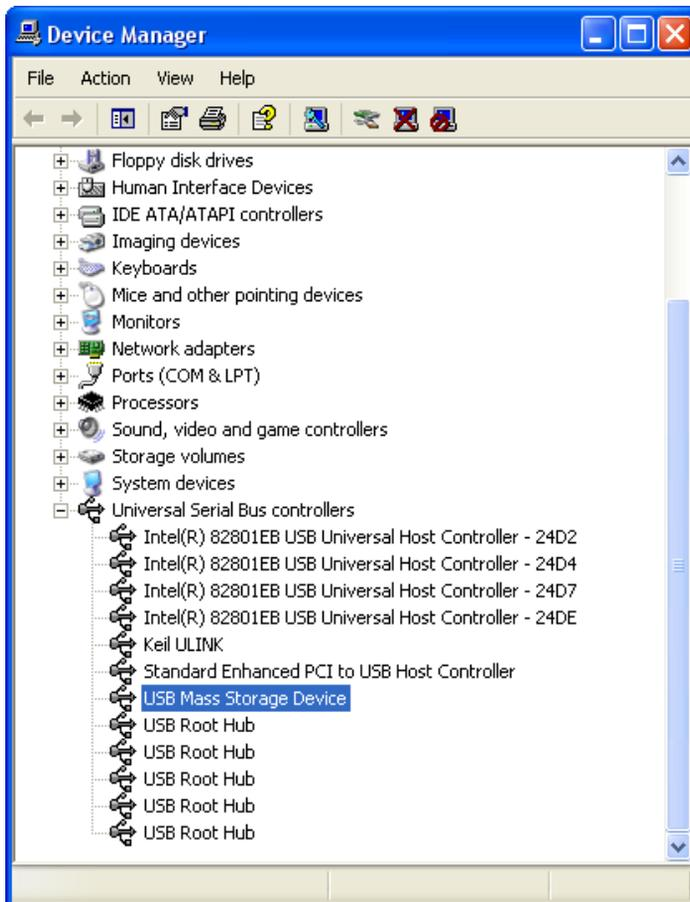

Figure 1-6 USB mass storage device
6. You can check the status of this USB mass storage device in the Device Manager panel. From the **Control Panel**, double click **System**. Select the **Hardware** tab. Then select **Device Manager**. In the **Universal Serial Bus controllers** group (see Figure 1-6 on page 1-16), double click **USB Mass Storage Device**. This represents the Keil MCB2140 board. Check that this device is enabled and working properly.